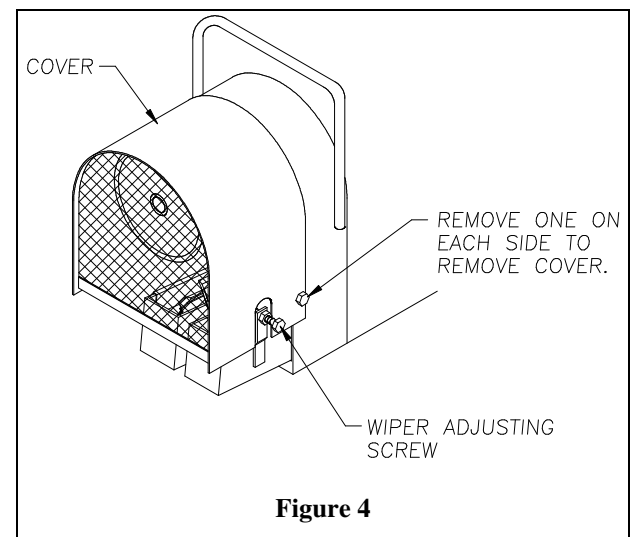

Figure 4
Step 4. Remove the cover by unbolting the two 1/4-20 bolts, one on each side, and lift off. (See Fig. 4)
Step 5. Unscrew the wiper adjusting screw as far as possible without removing it. (See Fig. 4)